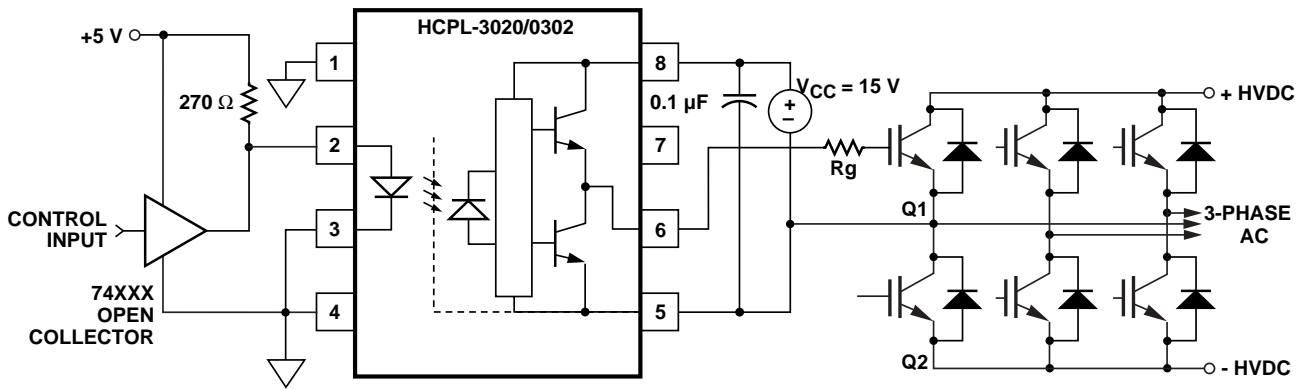
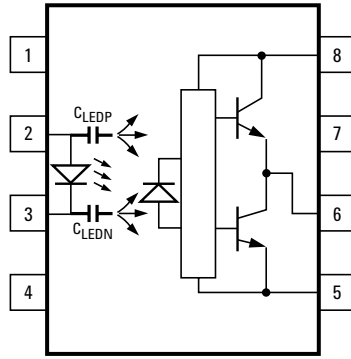
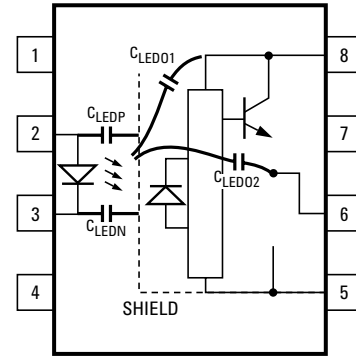
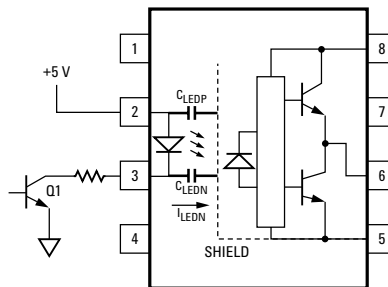

Figure 17. Recommended LED drive and application circuit for HCPL-3020 and HCPL-0302.
Figure 19. Optocoupler input to output capacitance model for unshielded optocouplers.
Figure 20. Optocoupler Input to output capacitance model for shielded optocouplers.
Figure 22. Not recommended open collector drive circuit.
a small PC board directly above the IGBT) can eliminate the need for negative IGBT gate drive in many applications as shown in Figure 17. Care should be taken with such a PC board design to avoid routing the IGBT collector or emitter traces close to the HCPL-3020 or HCPL-0302 input as this can result in unwanted
**Step 1:** Calculate Rg minimum from the IOL peak specification. The IGBT and Rg in Figure 17 can be analyzed as a simple RC circuit with a voltage supplied by the HCPL-3020.
KICC · Qg · f is the increase in ICC due to switching and KICC is a constant of 0.001 mA/(nC·kHz). For the circuit in Figure 17 with IF (worst case) = 10 mA, Rg = 57.5 Ω, Max Duty Cycle = 80%, Qg = 100 nC, f = 20 kHz and TAMAX = 85°C:
Without a detector shield, the dominant cause of optocoupler CMR failure is capacitive coupling from the input side of the optocoupler, through the package, to the detector IC as shown in Figure 19. The HCPL-3020 and HCPL-0302 improve CMR performance by using a detector IC with an optically transparent Faraday shield, which diverts the capacitively coupled current away from the sensitive IC circuitry. However, this shield does not eliminate the capacitive coupling between the LED and optocoupler pins 5-8 as shown in Figure 20. This capacitive coupling causes perturbations in the LED current during common mode transients and becomes the major source of CMR failures for a shielded optocoupler. The main design objective of a high CMR LED drive circuit becomes keeping the LED in the proper state (on or off) during common mode transients. For example, the recommended application circuit (Figure 17), can achieve  $10 \text{ kV}/\mu\text{s}$  CMR while minimizing component complexity.
The open collector drive circuit, shown in Figure 22, cannot keep the LED off during a  $+dV_{CM}/dt$  transient, since all the current flowing through  $C_{LEDN}$  must be supplied by the LED, and it is not recommended for applications requiring ultra high  $CMR_1$  performance. The alternative drive circuit, which likes the recommended application circuit (Figure 17), does achieve ultra high CMR performance by shunting the LED in the off state.